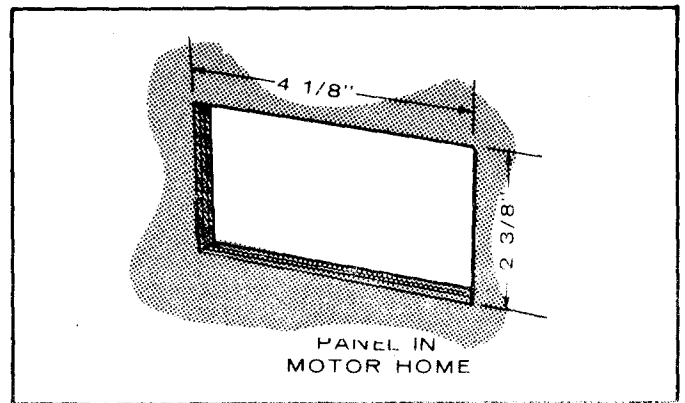

FIGURE 7. MOTOR HOME CUTOUT
1. To measure wall cutout for remote control panel, see Figure 7.